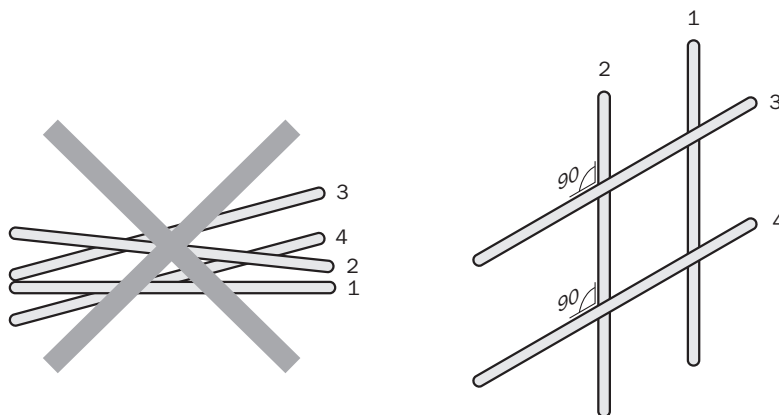

Figure 2: Cross cables at right angles
- ▷ Cables in groups 1, 2 and 3, 4 must be crossed at right angles (see figure 2).